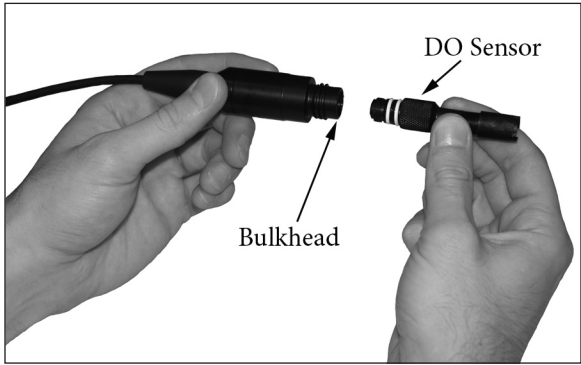

Figure 3
“Bulkhead” refers to the single-pin connector at the end of the probe/cable assembly where the dissolved oxygen (DO) sensor is installed (figure 3). The conductivity and temperature sensors are located above and next to the bulkhead respectively and are not user-replaceable.